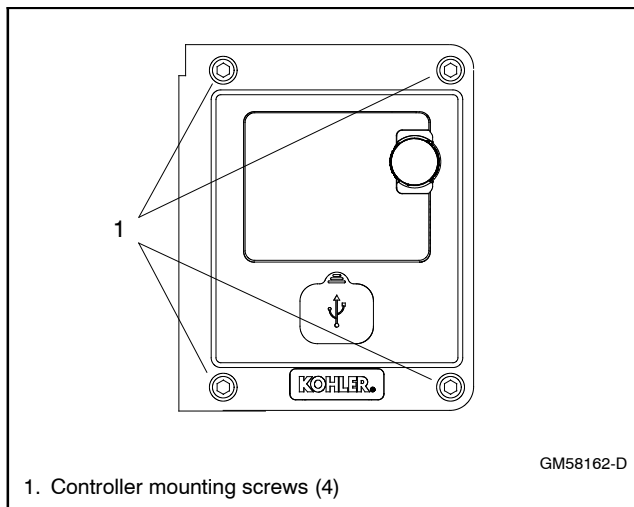

Figure 6-1 ADC II Mounting Screws
5. Loosen and remove the four controller mounting screws at the front of the controller. See Figure 6-1. Remove the controller.